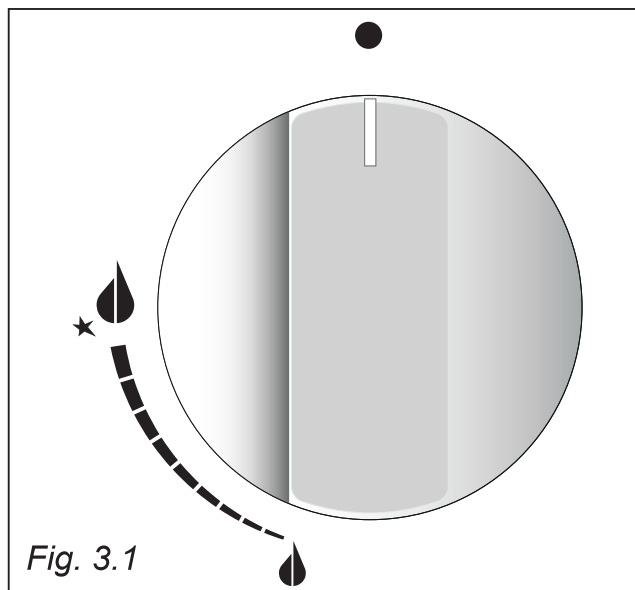
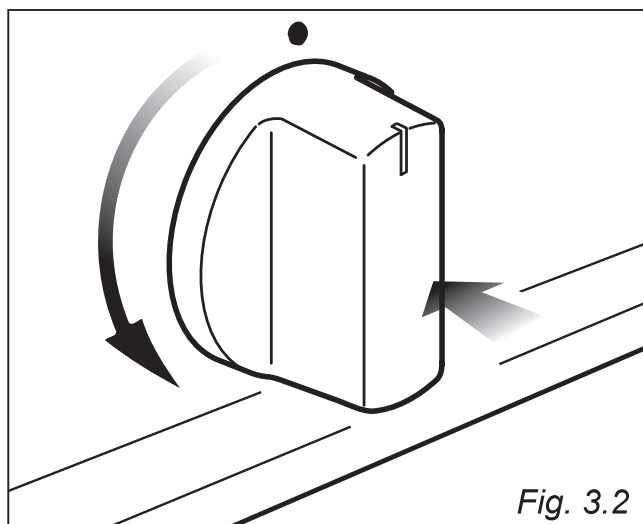

Fig. 3.1
Fig. 3.2
Gas flow to the burners is adjusted by turning the knobs (illustrated in figs. 3.1 - 3.2) which control the safety valves.
1. Press in the corresponding knob and turn counter-clockwise (fig. 3.2) to the full flame position marked by the  symbol (fig. 3.1) and hold the knob  in until the flame has been lit.